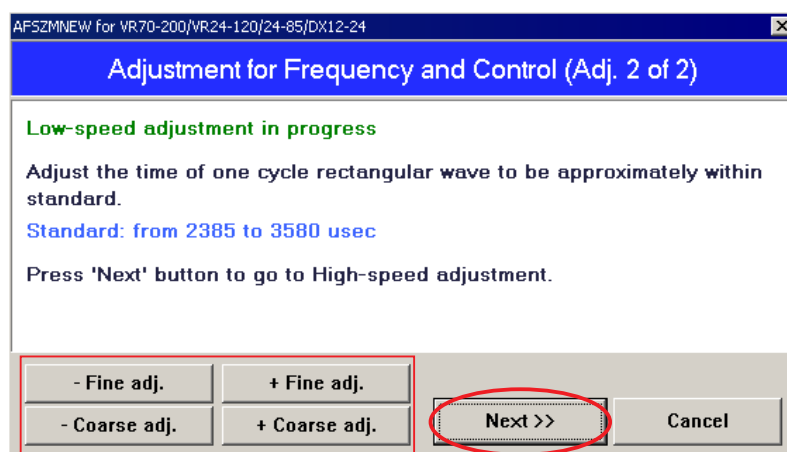

Fig.3
2. Click each adjustment of "A section" in "Fig.3", and adjust so that the values become within standards.
3. When the low-speed adjustment is completed, click "Next" of "Fig.3".